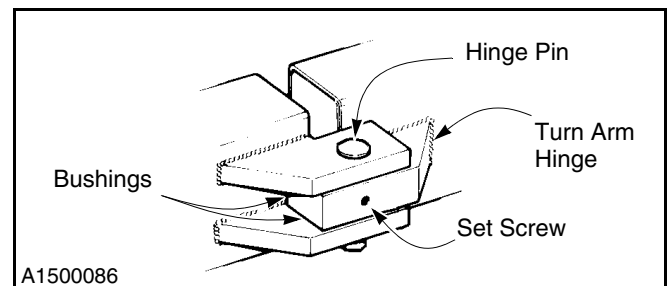

Figure 18
4. Inspect the hinge on each turn arm. The hinge pins, bushings, and set screws must be in place and tight. (See Figure 18.)